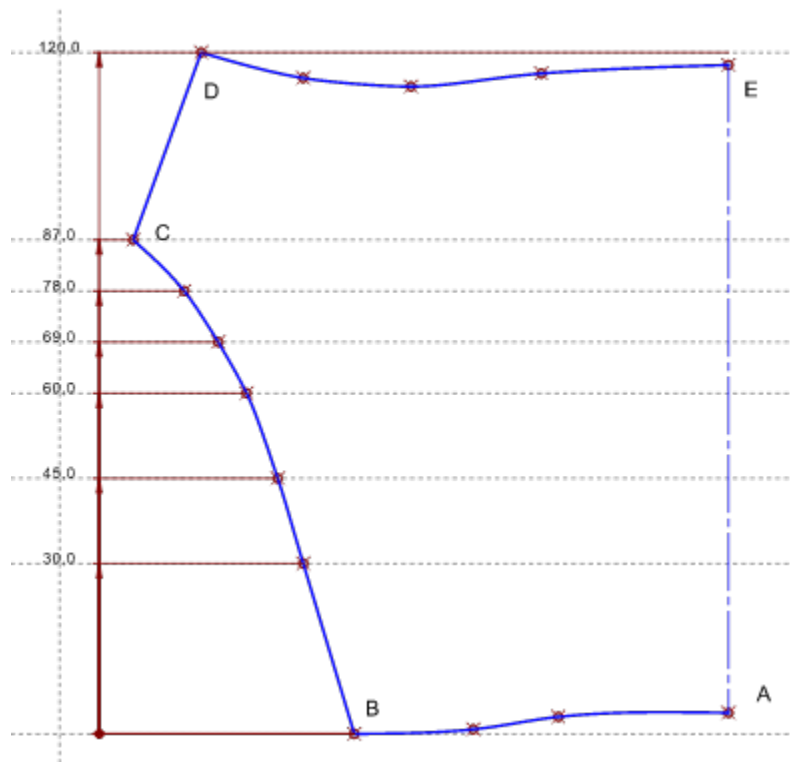

Figure 7
The last dimension, 120 mm, is an exception. The end point for this measurement is placed on the reflection of point D (F), to create a longer extension line. It is not necessary to draw a further line later on (Figure 7)